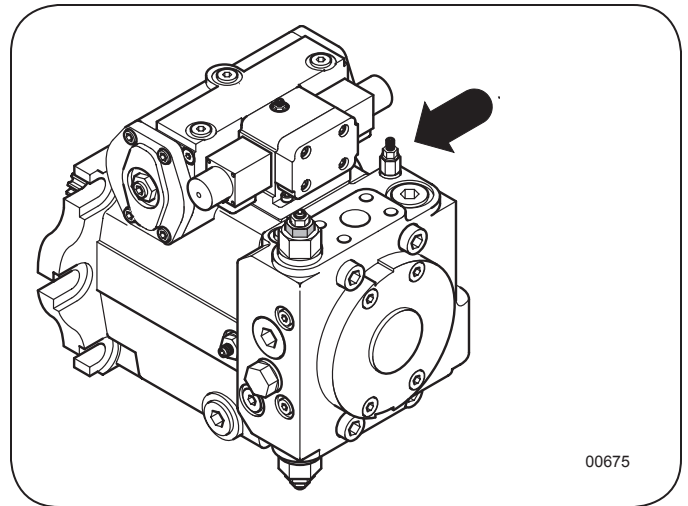

Figure 9: Wheel Drive POR Relief
6. Locate the POR relief on the wheel drive pump. See Figure 9. Use the 13mm wrench and 4mm allen wrench to loosen the jam nut on the POR relief adjustment setscrew.